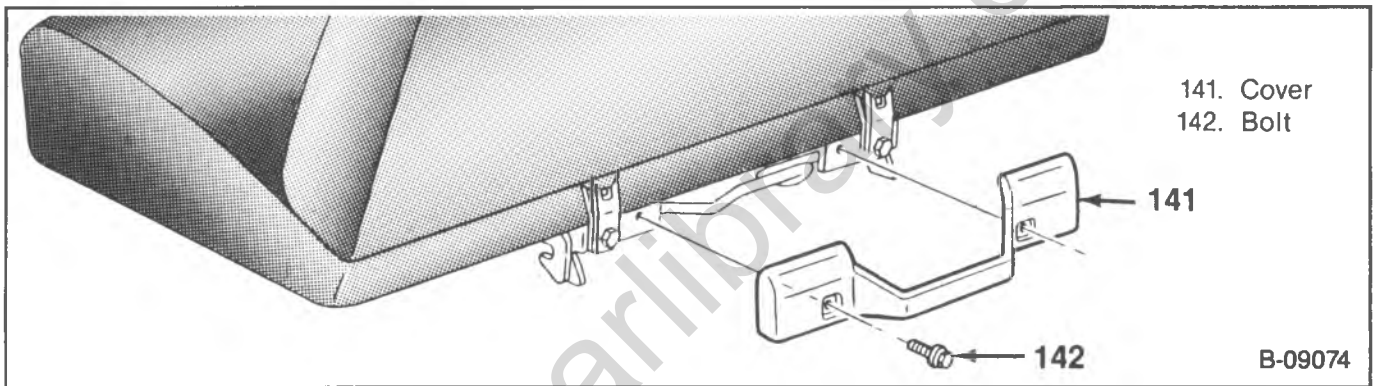

Figure 24—Suburban Rear Seat Latch Cover
↔ Remove or Disconnect (Figures 24 and 25)
1. Rear seat latch cover (figure 24).
2. Seat belts (151 and 152) to latch bolts (150).
5. Rear seat latch cover (figure 24).